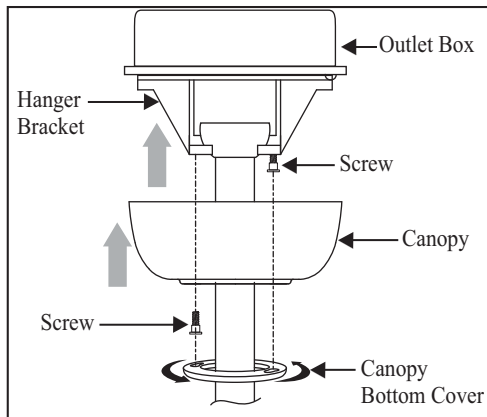

Figure 13
2. Slide the canopy up to hanger bracket and place the key hole on the canopy over the screw on the hanger bracket, turn canopy until it locks in place at the narrow section of the key holes. (Fig. 13)
3. Align the circular hole on canopy with the remaining hole on the hanger bracket, secure by tightening the two set screws. **Note:** Adjust the canopy screws as necessary until the canopy and canopy cover are snug. (Fig. 13)